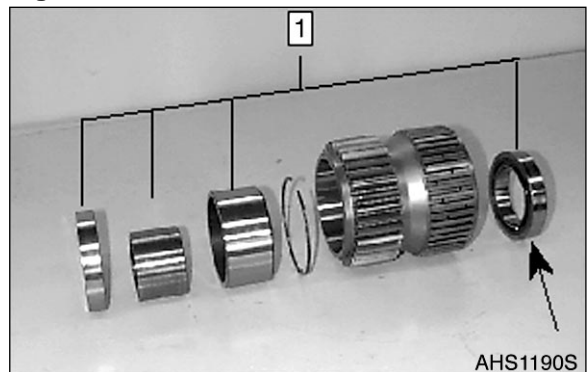

Figure 160
6. Figure 160, shows the spur gear bearing K1.
7. The bearing (1) is only as sub-assembly available.